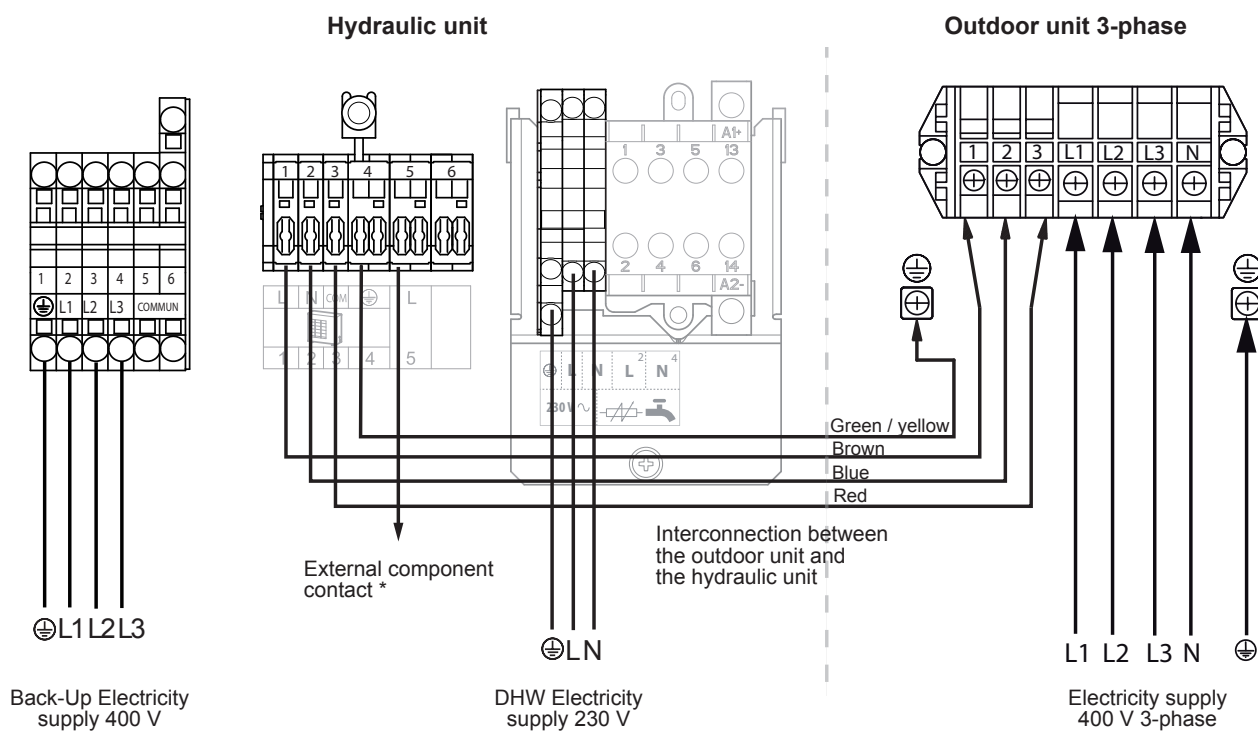

figure 44 - Connection to terminal block and power relays
- Make the connections in accordance with the diagram **figure 35 et figure 44, page 39.**
- Make the connections in accordance with the diagram figure 44.